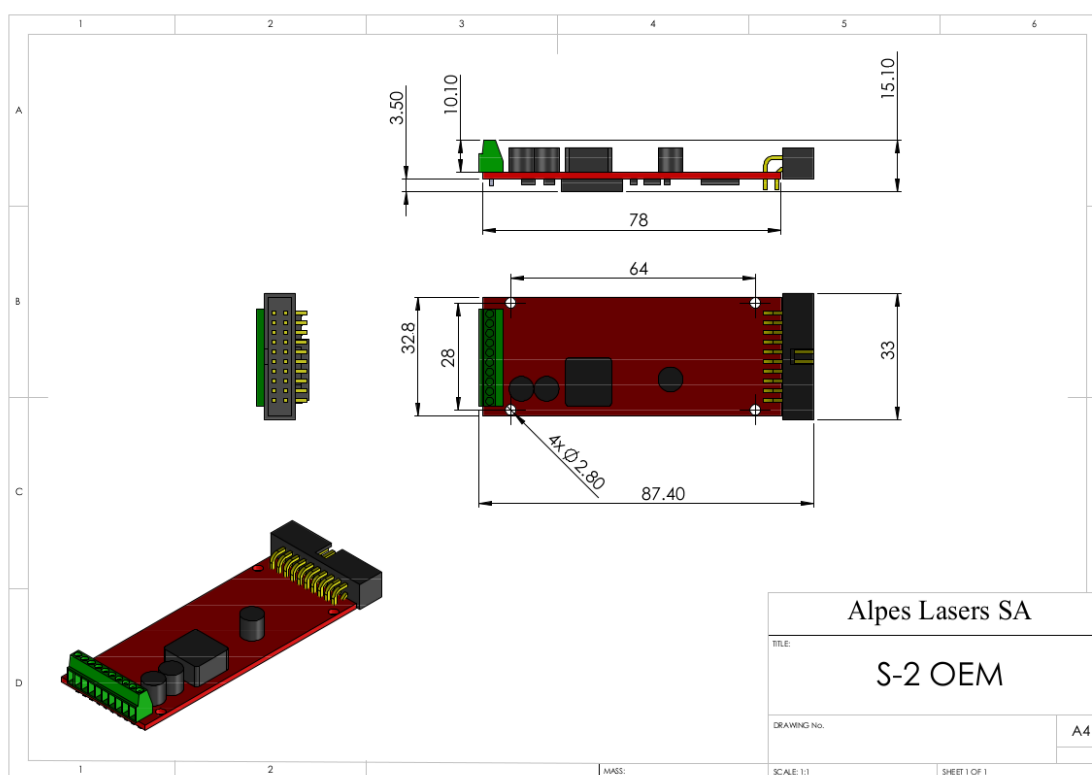

Figure 6.15.: S-2 driver in OEM configuration (protective box also available).
- as a bare circuit, as shown in Fig. 6.10 (see technical drawing in Fig. 6.15), to be integrated in the customer's device;